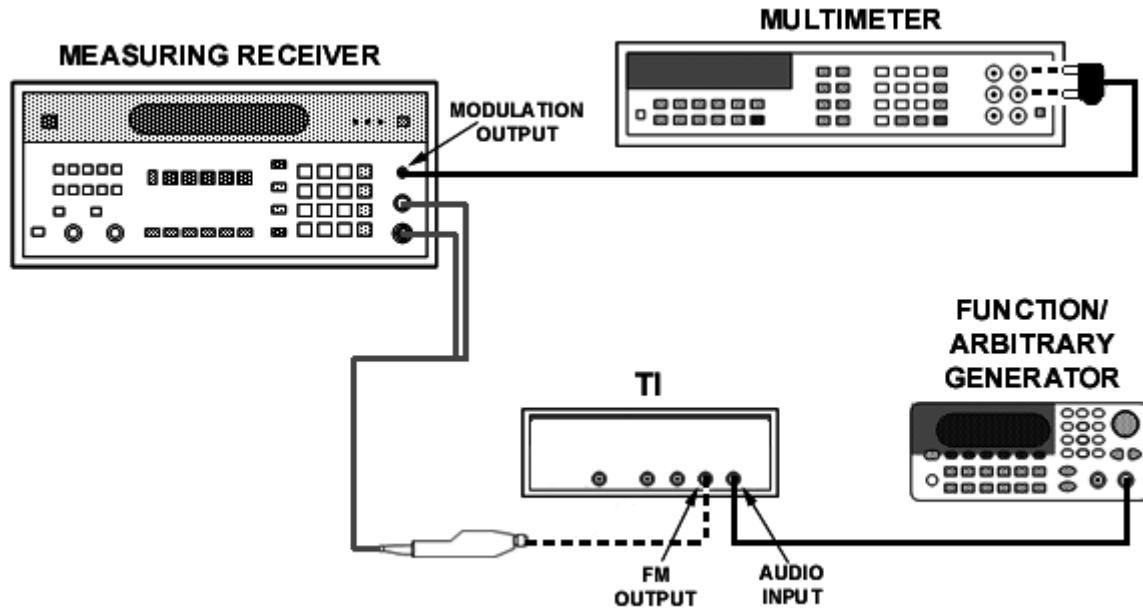

Figure 2. FM distortion - equipment setup.
- (1) Connect equipment as shown in figure 2.
- (2) Set TI **TEST MODE** switch to **FM**.
- (3) Set function/arbitrary generator controls for a 10 kHz, -18 dBm output.
- (4) Set measuring receiver to measure frequency in track tune mode.
- (5) Adjust TI **CARRIER FREQUENCY TUNE** until measuring receiver indicates 400.000 ± 0.010 MHz.
- (6) Set measuring receiver controls to measure average FM with a 50 Hz high pass filter (low pass filters and FM de-emphasis off).
- (7) Adjust function/arbitrary generator amplitude for a 20 kHz indication on measuring receiver.